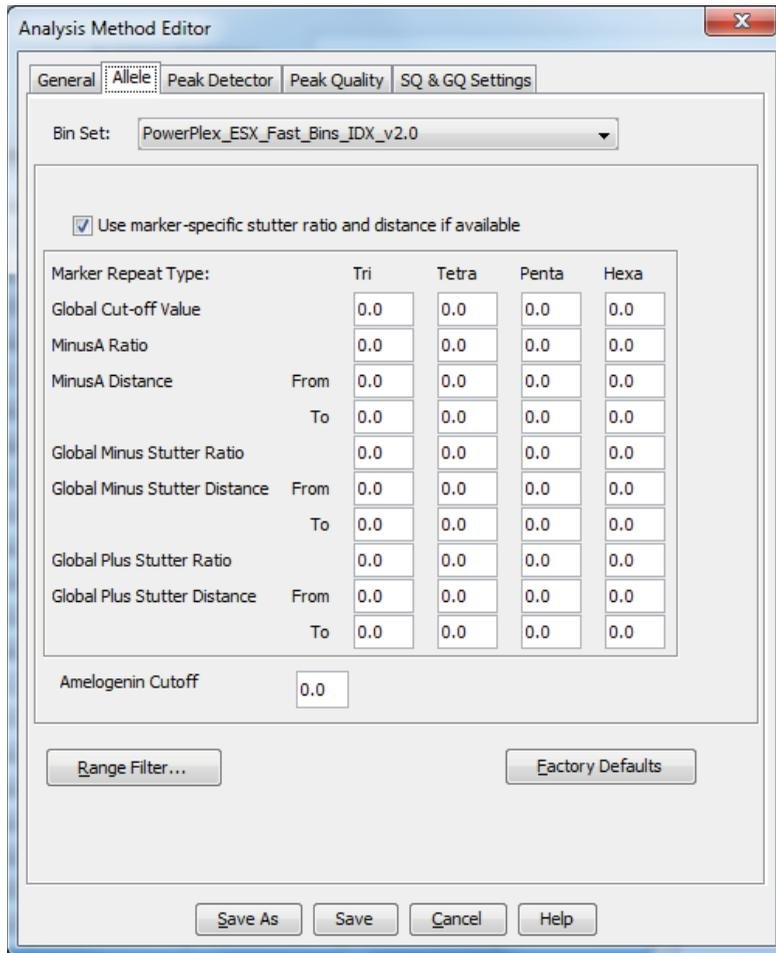

Figure 12. The GeneMapper® ID-X ‘Allele’ tab.
6. Select the 'Allele' tab (Figure 12).
8. Ensure that the “Use marker-specific stutter ratio and distance if available” box is checked. We recommend the values shown in Figure 12 for proper filtering of stutter peaks when using the PowerPlex® ESX 17 Fast System. You may need to optimize these settings. In-house validation should be performed.